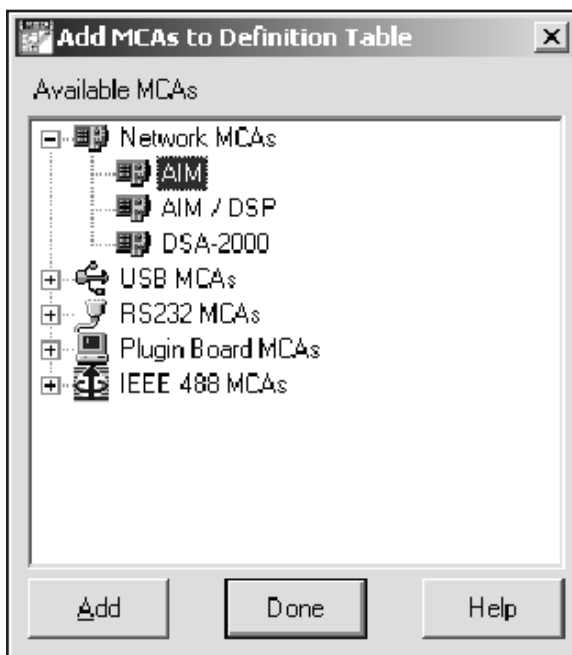

Figure 4 The ADD MCA Dialog
2. Select **Edit | Add MCA**. This will bring up a list of MCAs, grouped by board type. This will bring up the Add MCA dialog (Figure 4).
4. Highlight the AIM MCA (Figure 4), click the **Add** button to add it to the MCA Definition Table. Then click on the **Done** button.
Note: Figure 4 shows the MID Editor's Add MCA dialog for Genie 2000 V2.1 and later. Earlier versions of the MID Editor do not group MCAs by board type.